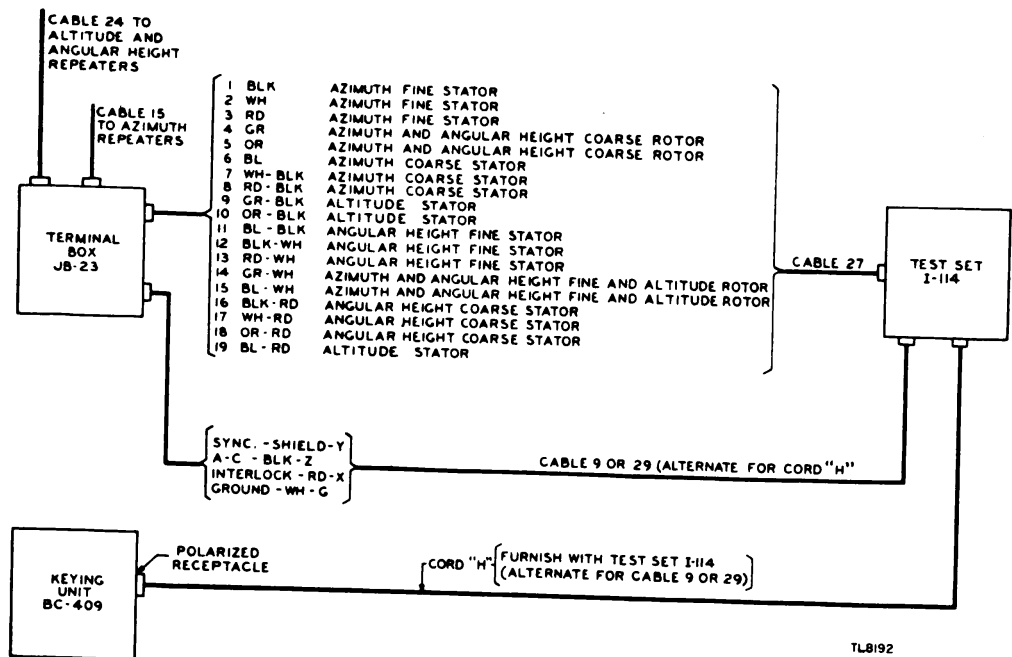

Figure 20. Test Set I-114, connections.
b. Locating and Connecting. Figure 20 is a functional diagram showing the location of the test set in the test circuit. Locate the test set near an appliance outlet, such as the outlet on the keyer, and close enough to the trailer mount to permit easy communication between the man making
the test and the man operating the controls on the trailer. Connect the test set as shown in figure 20. Alternating current may be connected to the test set either by cable 9, Test Cord CD-520, or test cord H. When the test set is connected, one of its a-c receptacles will not be used. Avoid short-circuiting the live terminals in the unused male receptacle. The setting of the switches on the test set select the repeater, and stator windings of the repeater under test, as shown in the table below.
(1) TO MEASURE VOLTAGES OF 150 VOLTS OR LESS (TEST SETS HAVING SERIAL NUMBER 243 OR LOWER). Connect the alligator clips of cord J across the voltage to be measured, and set the voltmeter switch in the VM position.
(2) TO CHECK FOR GROUNDED CABLE LEADS. Connect alternating current to the test set (fig. 20). Cable 27 need not be connected. Set the voltmeter switch in the VAC position, and operate the toggle switch on the test set. Touch the insulated clip of cord J to the lead in question. If the voltmeter does not deflect, the lead is not grounded. If the voltmeter deflects, note the reading. Move the voltmeter to the VM position and note the voltmeter reading. If the two readings are the same, the lead is grounded through little or no resistance. If the first reading is less than the second, the lead is grounded through a resistance path.
(3) TO CHECK FOR CROSSED CABLE LEADS.
(a) Connect alternating current to the test set (fig. 20). Cable 27 need not be connected. Set the voltmeter switch in the VAC position, and operate the toggle switch. Disconnect both ends of the lead under test.